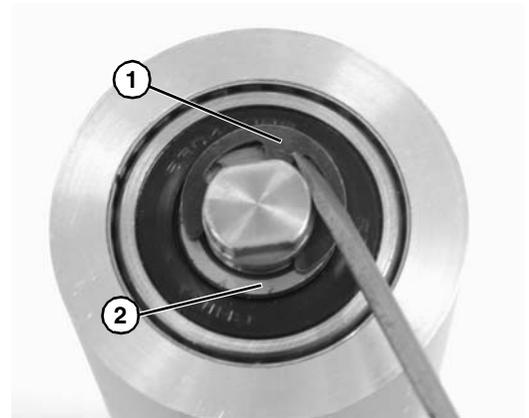

Figure 83
5. Remove the pulley shaft assembly: remove the clip ring (Figure 83, item 1) and washer (Figure 83, item 2) from one side of the pulley assembly.